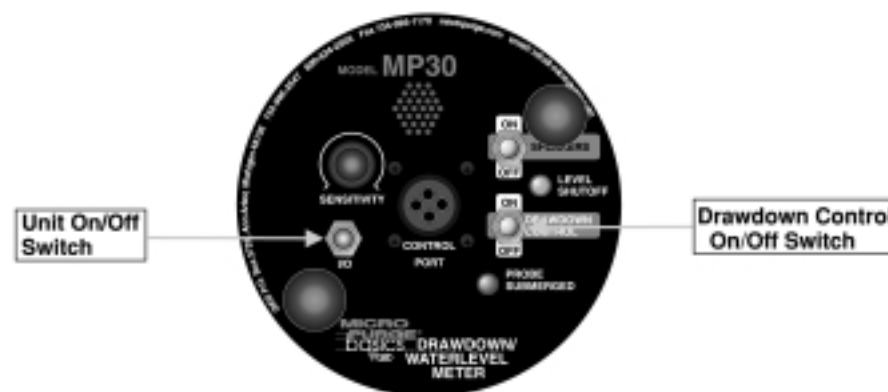

Figure 5
12. The MP30 Drawdown Meter will automatically signal the controller to pause pumping if the probe is no longer submerged, and will also activate the buzzer and the "Level Shutoff" (see Figure 5 below) light.
13. If the water level in the well recovers and reaches the probe, the basics controller will resume pump operation and the MP30 "Probe Submerged" light (see Figure 5 below) will activate.